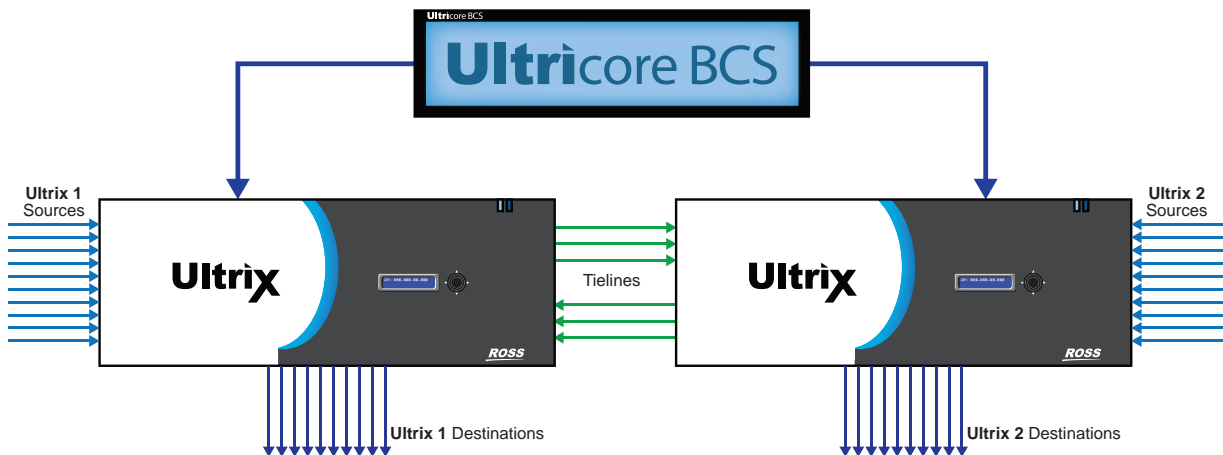
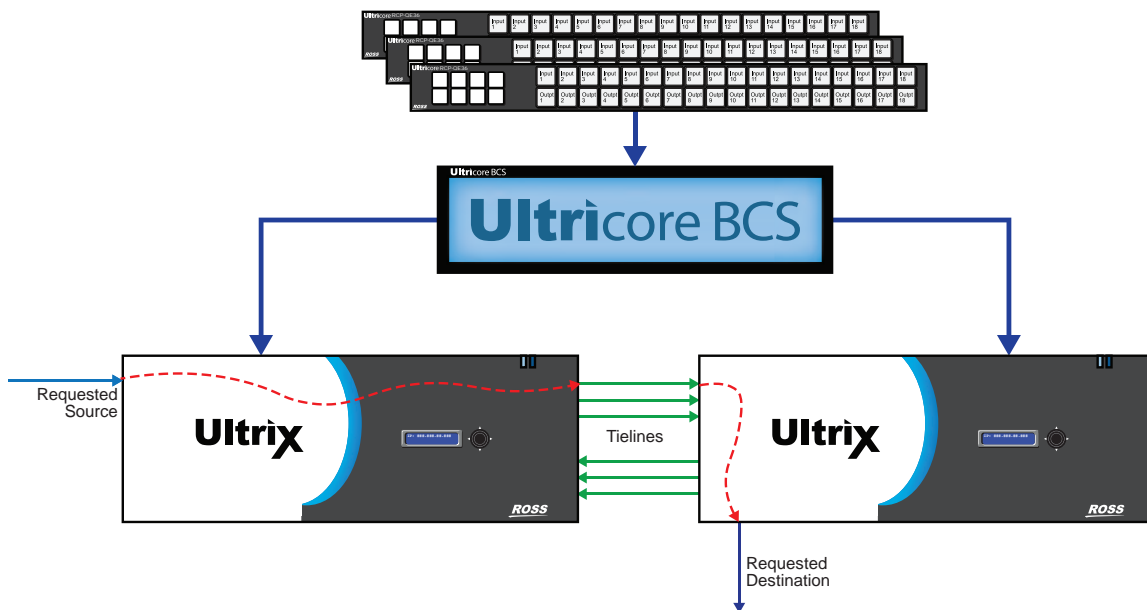

Figure 37 Example of a Distributed Routing System Work Flow with Tielines
Figure 38 Example of Tielines in a Work Flow
A tieline is a method of connecting two routers together so that they may share sources and destinations. How many inputs and outputs that can be shared depends on how many tielines have been provisioned, if the tielines are in use, or if a user has permissions to use them. **Figure 37** represents a two-way tieline connection between routers where one (or more) outputs of Ultrix 1 are connected to the inputs of Ultrix 2, and one (or more) outputs of Ultrix 2 is connected to the inputs of Ultrix 1.
Figure 38 illustrates a work flow where Ultrix 2 needs a source that is only present on Ultrix 1. The Ultracore BCS routes the requested source to a destination that is configured as a tieline, and on Ultrix 2, it will route the tieline source to the user selected Destination.
★ Tielines do not have to be bi-directional as represented in **Figure 37** and **Figure 38**.
In **Figure 38** the following occurred:
Figure 38 summarizes the steps required to set up and configure tielines for the Ultracore BCS.
- b. Use the **From Device** menu to specify the router that will provide the start point for the Ultricore BCS tieline. In **Figure 38**, this would be Ultrix 1.
- b. Use the **To Device** menu to specify the router that will be the end point for the Ultracore BCS tieline. In **Figure 38**, this would be Ultrix 2.